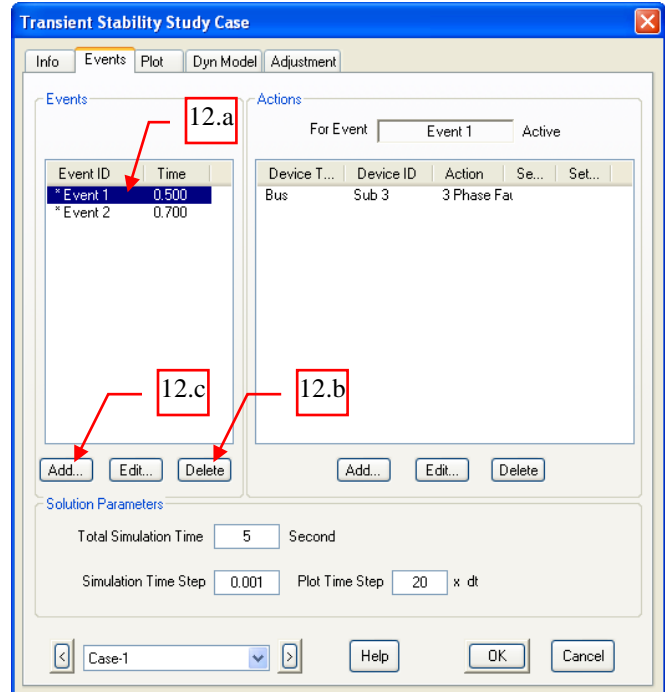

Fig. 7
12. In the “Events” tab, existing events and actions will be seen that were inherited from the “TS” study case copied in Step 9 (See Fig. 7). Delete these and create a new event and action, i.e. trip “CB1”.